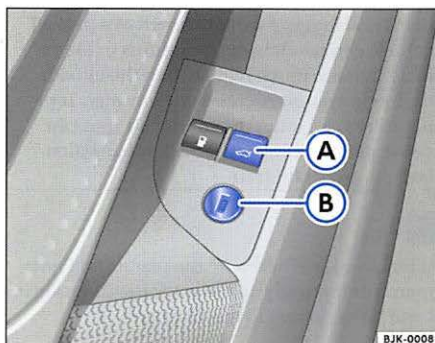

Fig. 19 Detail of the driver's door: rear lid release button
- Pull the rear lid release switch (⇒fig. 19 A) in the driver's door. The rear lid opens automatically all the way or
- In the driver's door there is also an override lock next to the rear lid release switch. Insert the master key into the lock ⇒fig. 19 B and turn it clockwise. When you activate this lock the rear lid release switch is inactive. This way the luggage compartment remains locked.